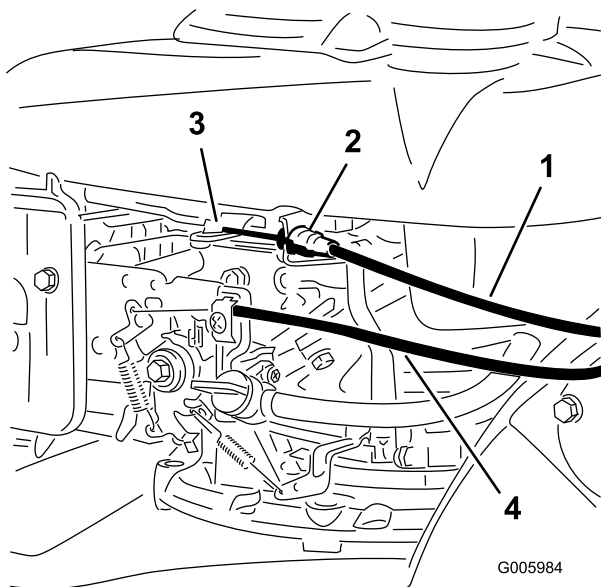
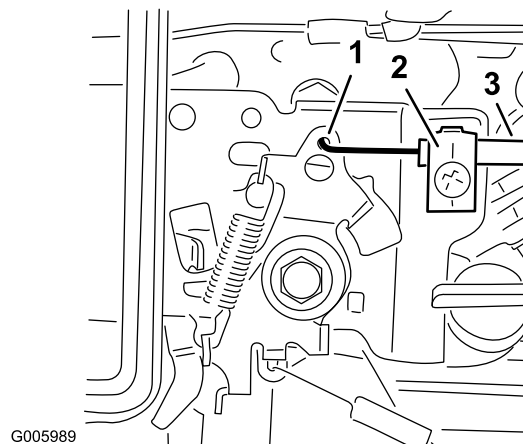

Figure 6
Figure 8
3. Route the blade brake cable around the outside of the handle and attach the cable end (Figure 6).
6. Route the throttle cable around the outside of the handle, insert the cable jacket in the cable clamp, and attach the cable end to the throttle lever on the engine (Figure 6 and Figure 8).